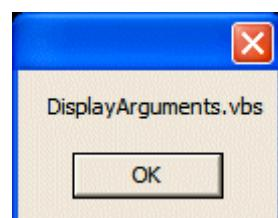

Figure 8-11. Displaying the second argument.
- 3) Click the **OK** button to dismiss this *MsgBox()*. The script now displays the second argument as illustrated in Figure 8-11.